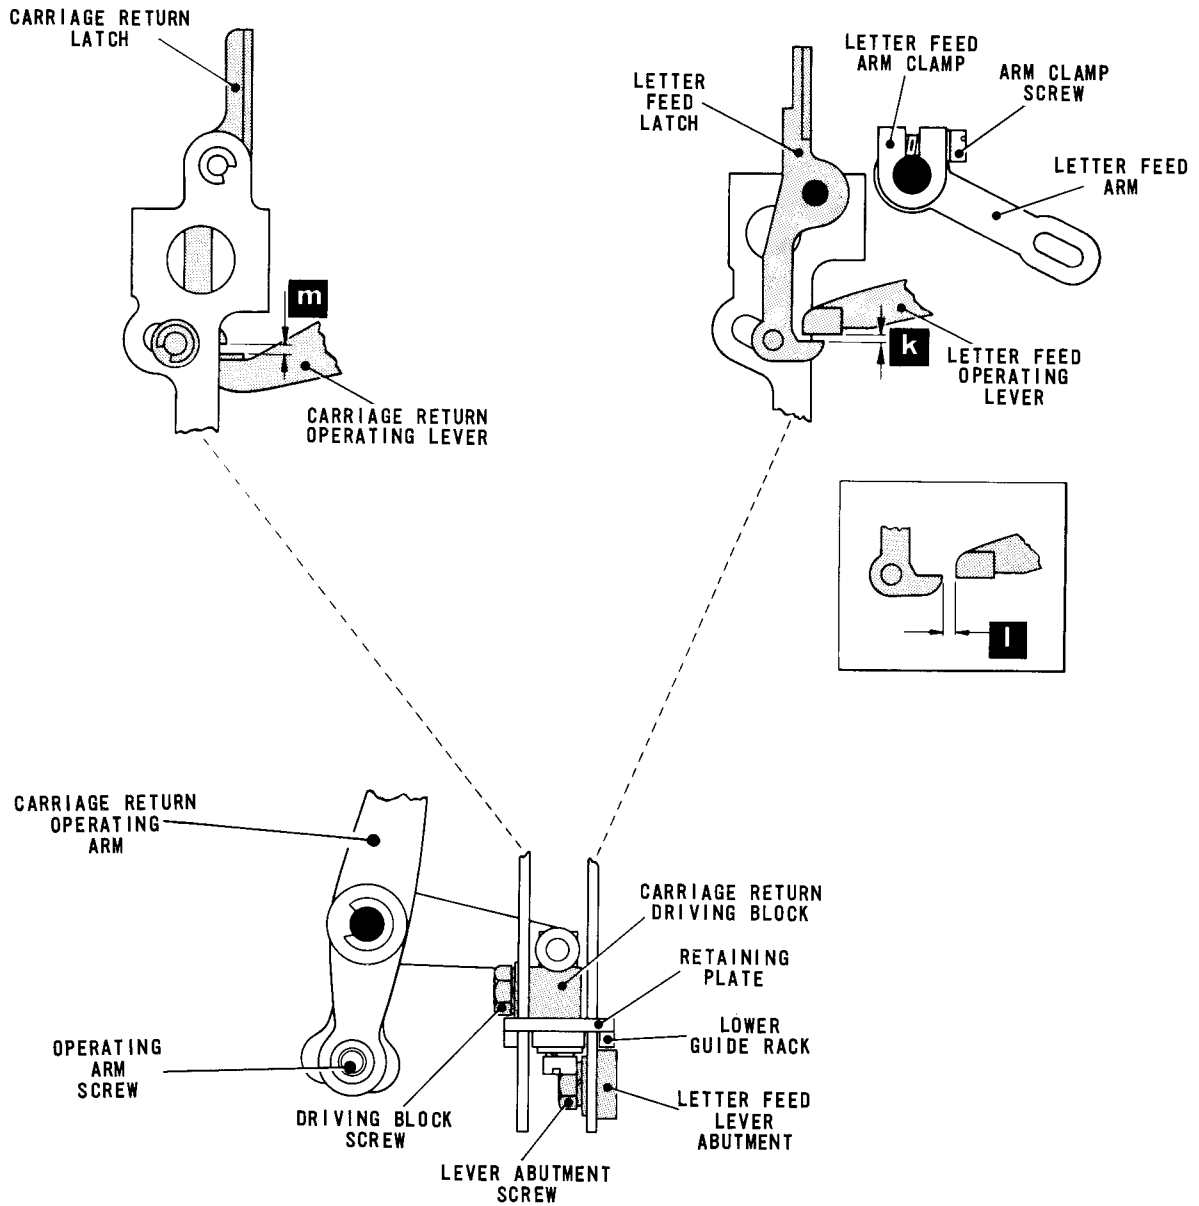

Fig. 4.8 LETTER FEED AND CARRIAGE RETURN CONTROL LINKAGES
- 10.1 Lift the translator clutch abutment and turn the camshaft by hand until the letter feed operating lever, Fig.4.8, is fully raised. Hold the letter feed lever abutment against the lower guide rack and push the letter feed latch inwards. Check that the latch passes beneath the shoe on the operating lever by .015 - .025 in. (dimension 'k').
- 11.1 With the translator camshaft in the rest position, press the carriage return driving block, Fig.4.8, down on its retaining plate. Push the lower end of the carriage return latch inwards and check that its latching face passes over the shoe of the carriage return operating lever with a clearance of approximately .030 in. (dimension 'm').